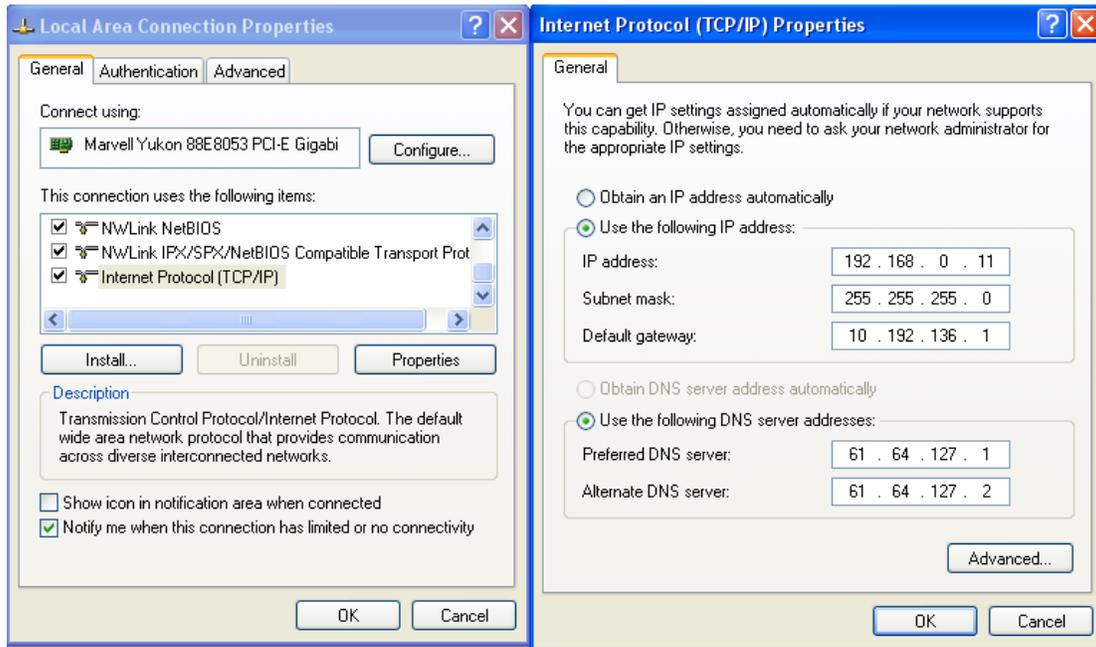

Figure 22
5. Set the User Configured IP address to 192.168.0.11 as shown in Figure 22 on next page.